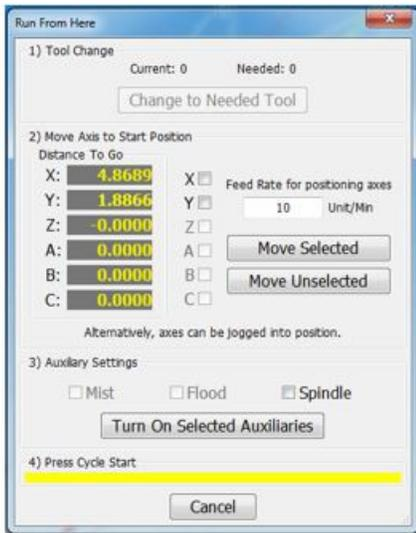

Figure 9 - Run from here
3. Select the [**Change to Needed Tool**] button if applicable (Figure 9)
4. Enter desired value in the Feed Rate field (Figure 9)
5. Select axis to move and press [**Move Selected**] button (Figure 9) to move the axis into position
6. Select desired Auxiliary Settings and press [**Turn On Selected Auxiliaries**] button (Figure 9)